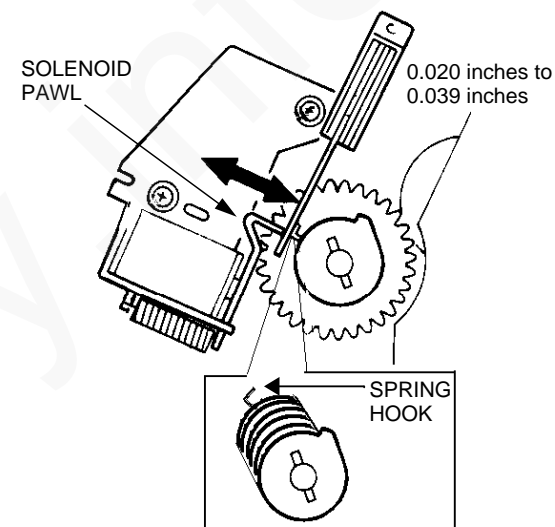

Figure 1. Feed solenoid adjustment
11. Measure the distance between the clutch spring hook and the pawl, with pawl depressed. The gap should measure between 0.020 inches (.508 mm) to 0.039 inches (.991 mm) (figure 1).